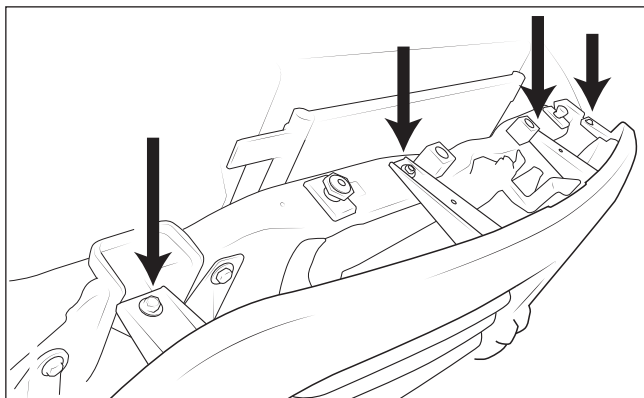

Figure 2
- b. Remove the four bolts holding the top of the grill (fig. 2).